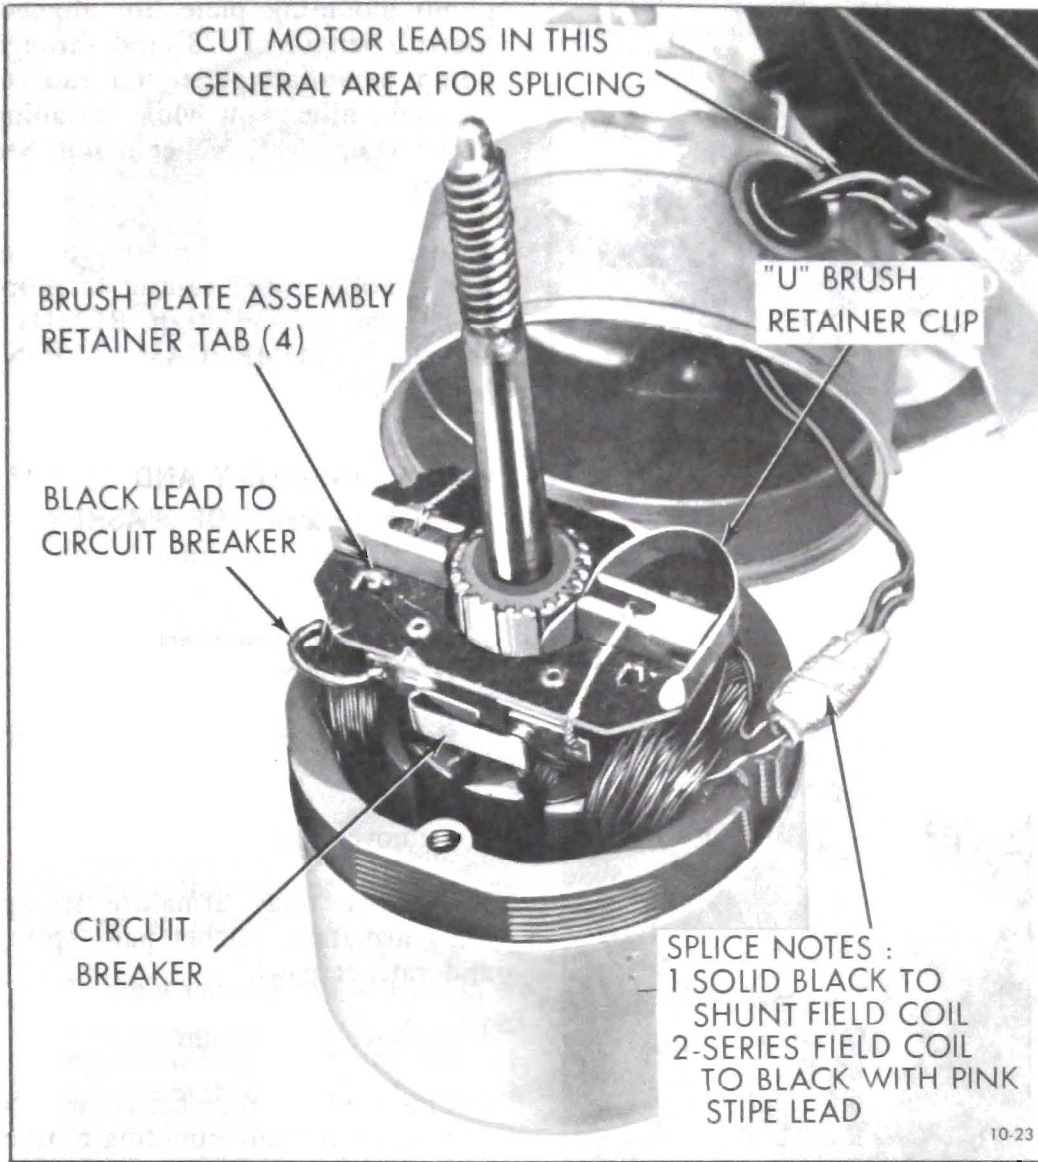

Figure 10-42 Motor Disassembly
4. Unsolder the black lead from circuit breaker. See Figure 10-42.
6. Install "U" shaped brush retainer clip over brush holder that has brush lead attached to circuit breaker. See Figure 10-42
2. The end case and field assembly is serviced as a unit. To free the field and case assembly, cut the solid black and black with pink stripe leads in a location convenient for splicing--preferably near the wiper terminal board. Refer to Figure 10-42.
5. Position the partially assembled brush plate, Figure 10-44, over the armature shaft far enough to allow re-assembly of the remaining brush in its brush holder; then position the brush plate assembly on the mounting tabs in the position shown in Figure 10-42.
7. Remove brush retainer clips and resolder circuit breaker ground lead to circuit breaker. Refer to Figure 10-42.